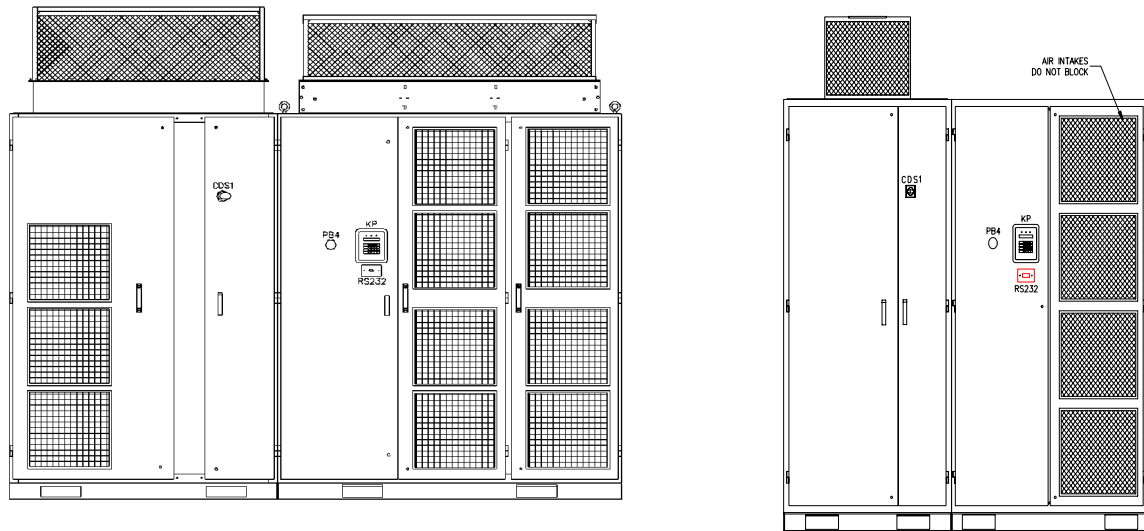

Figure 1-5. Typical 4,160V (Left) and 6,600V (Right) GEN III Perfect Harmony VFDs
- GEN III style (shown in Figure 1-5).